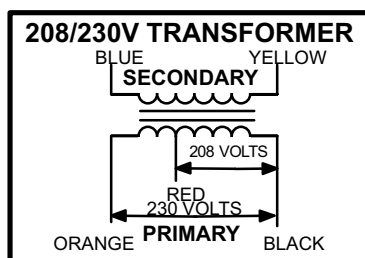

FIGURE 7
age transformers use two primary voltage taps as shown in figure 7, while 460 (G) and 575 (J) voltage transformers use a single primary voltage tap.
All LCA/LHA series units with 45 - 90 kW electric heat use a single line voltage to 24VAC transformer mounted in the electric heat control hat section in the control box. The transformer supplies power to all electric heat controls (contactors and coils). The transformer is rated at 70VA and is protected by a 3.5 amp circuit breaker CB13. The 208/230 (Y) voltage transformers use two primary voltage taps as shown in figure 7. Transformer T2 is identical to T1.